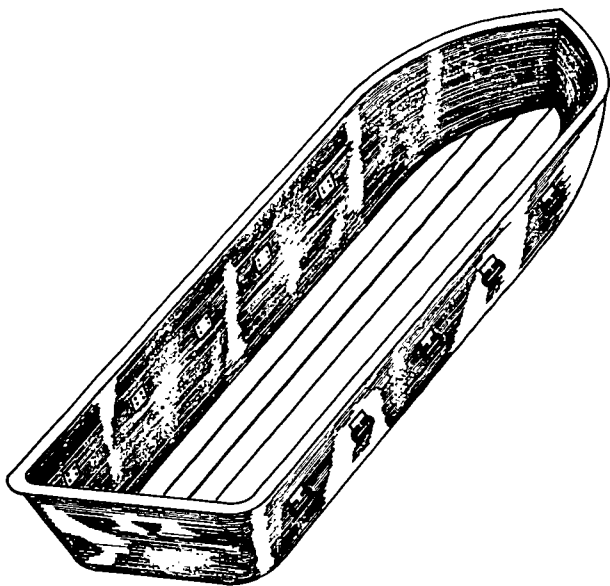

Figure 224. Sixteen-foot plastic assault boat.
a. Design. The plastic assault boat (fig. 224) is a light craft designed to carry the leading elements in an assault stream crossing. It is equipped with 10 carrying handles to hand carry the boat to the stream.